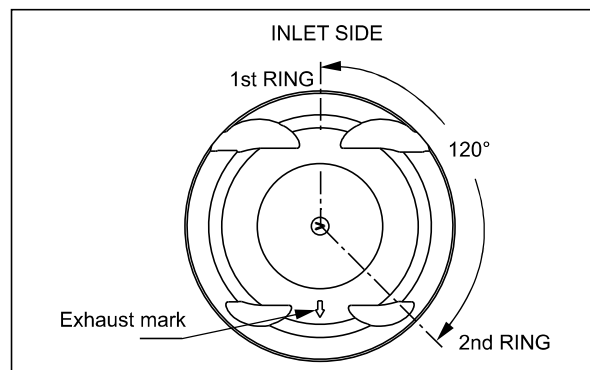

Fig. 3.101
- Align the ring piston 1st in such a way that the end gap of the ring is located at the inlet side of the piston (opposite to exhaust mark) as shown. (Fig. 3.101)
- In similar manner, align the ring piston 2nd in such a way that the end gap of the ring is located at 120 degree from the first ring end gap as shown. (Fig. 3.101)